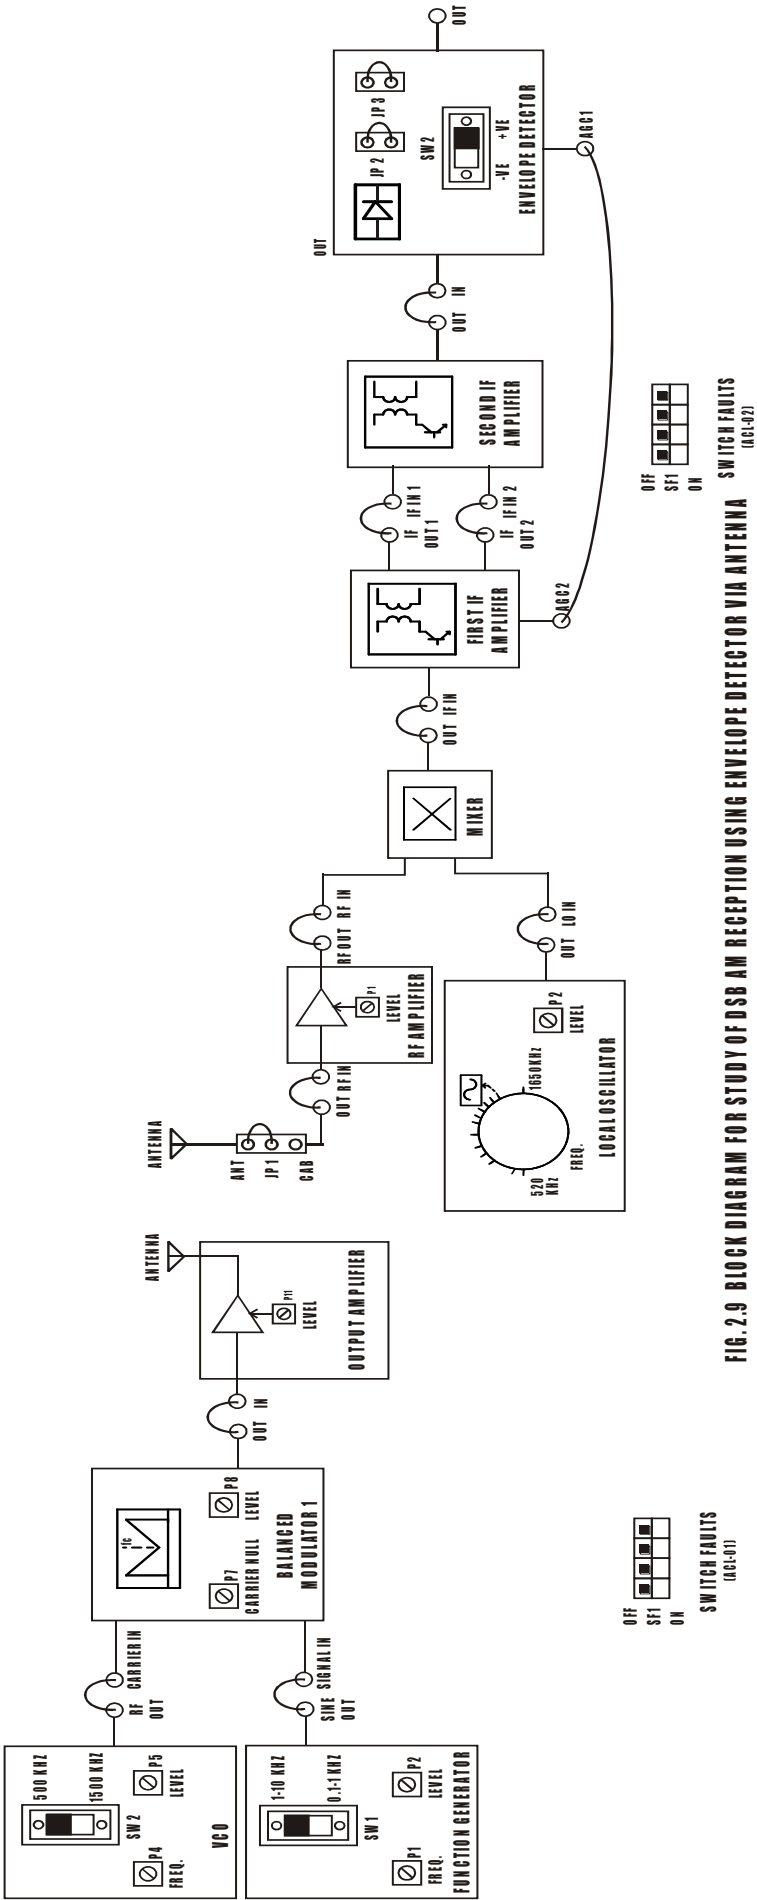

FIG. 2.9 BLOCK DIAGRAM FOR STUDY OF DSB AM RECEPTION USING ENVELOPE DETECTOR VIA ANTENNA
1. Refer to the FIG. 2.9 & Carry out the following connections.